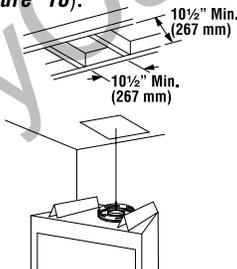

FIGURE 18
A. Frame ceiling opening - Use a plumb line from the ceiling above the appliance to locate center of the vertical run. Cut and/or frame an opening, 10 1/2" x 10 1/2" (267 mm x 267 mm) inside dimensions, about this center mark (**Figure 18**).